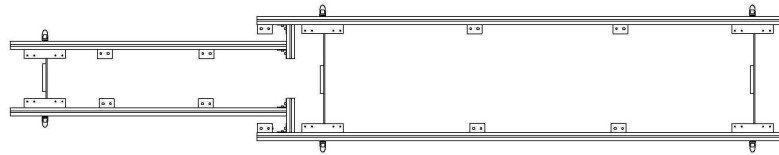

Figure 1
**Note:** Sight-Line Tables use (2) different width Bases for the narrow end versus the middle and/or wide end of the table (See Figure 1). Shorter Tables (i.e. 120" or 144") omit the Center Base. Refer to standard Saber Table Installation Instructions for typical assembly methods.